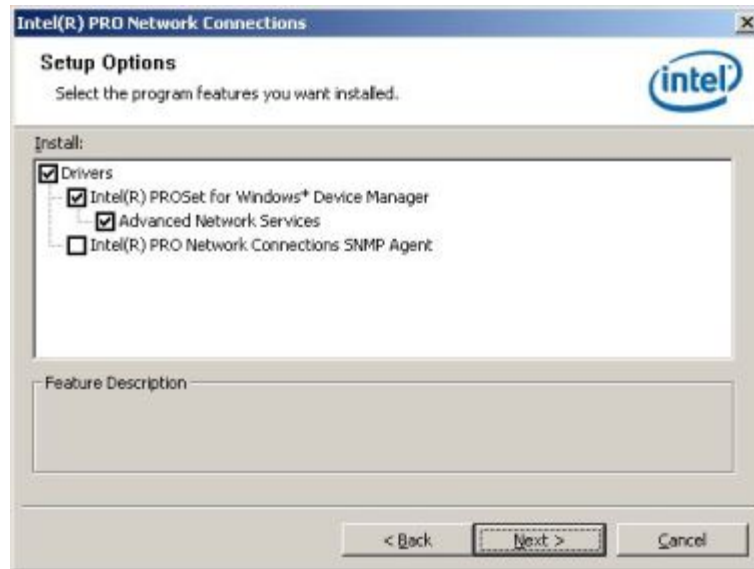

Figure 7-23: Intel® 82566 Driver Setup Options
Step 15: The **Setup Options** screen in **Figure 7-23** appears next.
Step 16: Select the required installation configuration in **Figure 7-23** and click **NEXT** to continue.